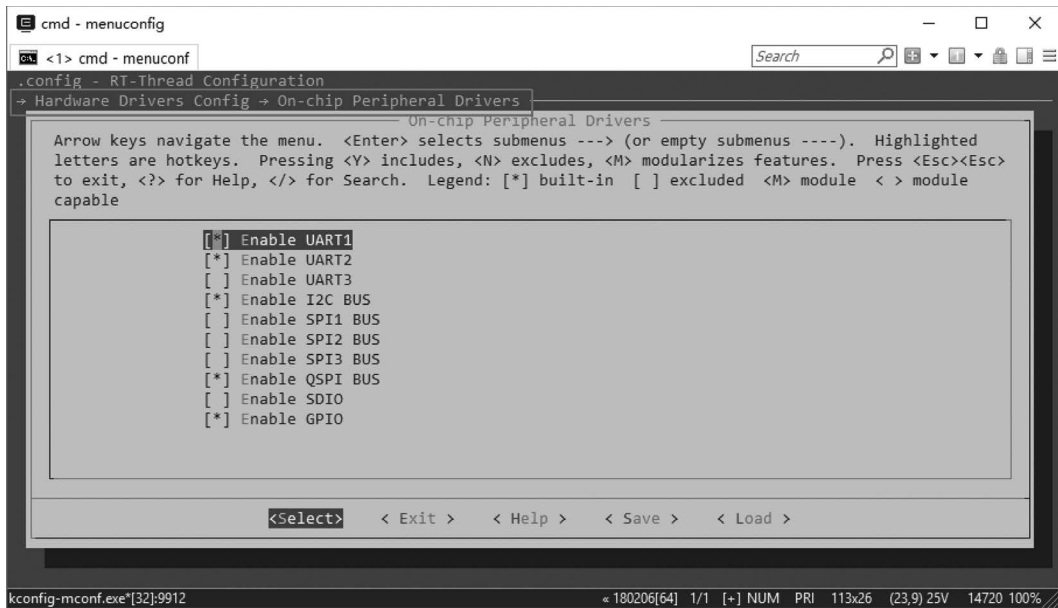

FIGURE 11.21 Hardware configuration 1.
1. According to the options in the red box in Figure 11.21: Enable UART1 (Enable FinSH function), QSPI1 (Enable QSPI Device), GPIO (Enable PIN device) via the “Hardware Drivers Config ---> On-chip Peripheral Drivers --->” menu.